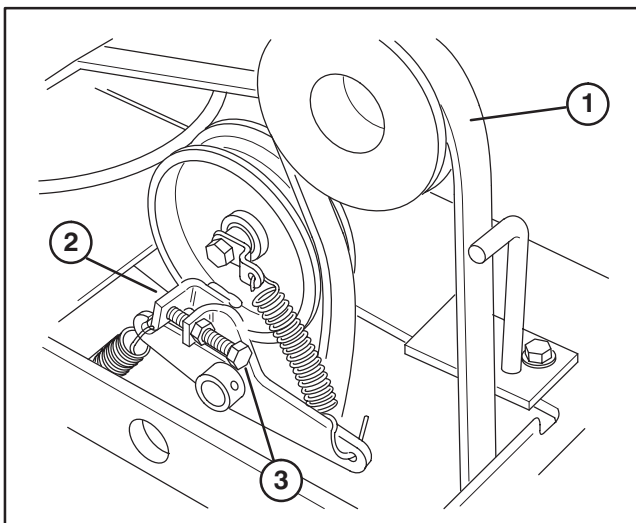

Figure 32
2. The transaxle belt (Fig. 32) is properly adjusted when there is a gap of 1/4" between drive take up bracket and end of stop bolt, when clutch is engaged.